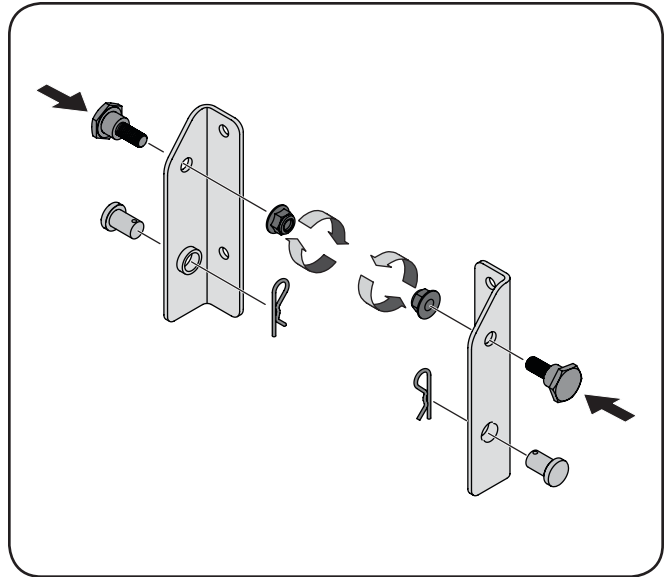

Figure 4-1
1. Install a shoulder bolt from your hardware pack on each bracket, securing them with flange lock nuts also included in the hardware pack. Refer to Fig. 4-1.
2. Insert the clevis pins from your hardware pack on each bracket, securing them with clip pins also included in the hardware pack. Refer to Fig. 4-1